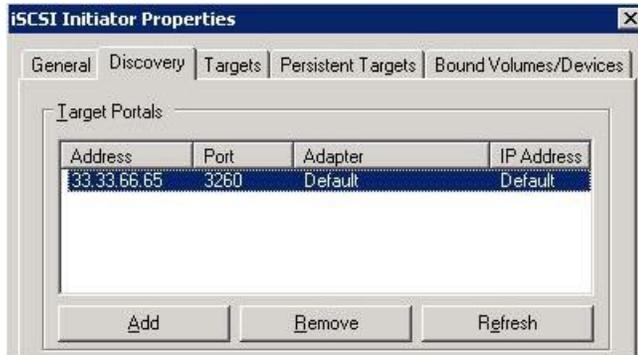

Figure 22 Adding an IP address
- e. Click the **Discovery** tab, (Figure 22).